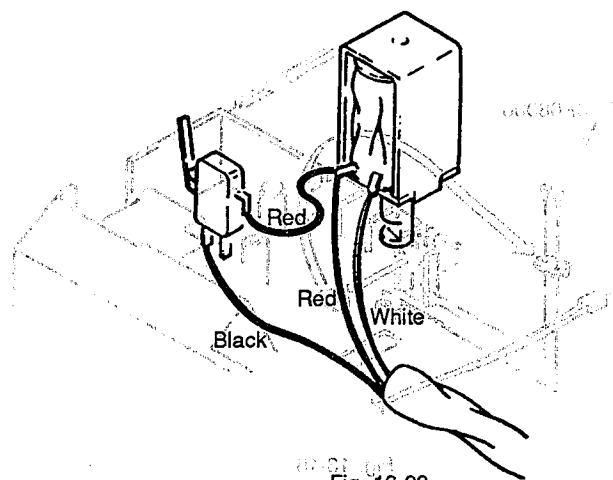

Fig. 13-22
- 8) Solder the reset of leads to the solenoid as shown in the Fig. 13-22